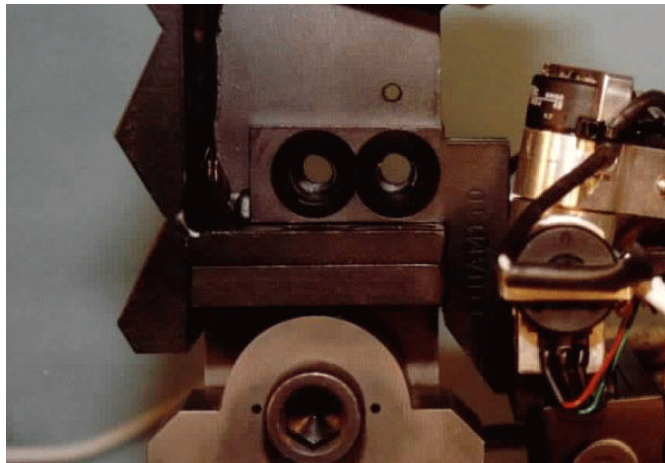

Figure 16.10- Proper hole alignment
1. Position the two tabs of the upper abdomen assembly over the lower thoracic spine weldment, and align the holes as indicated in **Figure 16.10**.